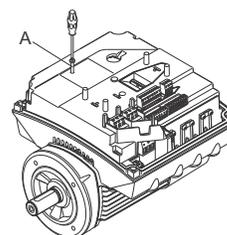

Fig. 14 Removing the securing screw
3. Remove the securing screw (fig. 14, A).
5. Fit and tighten the securing screw (fig. 14, A) to 0.96 ft-lb (1.3 Nm).